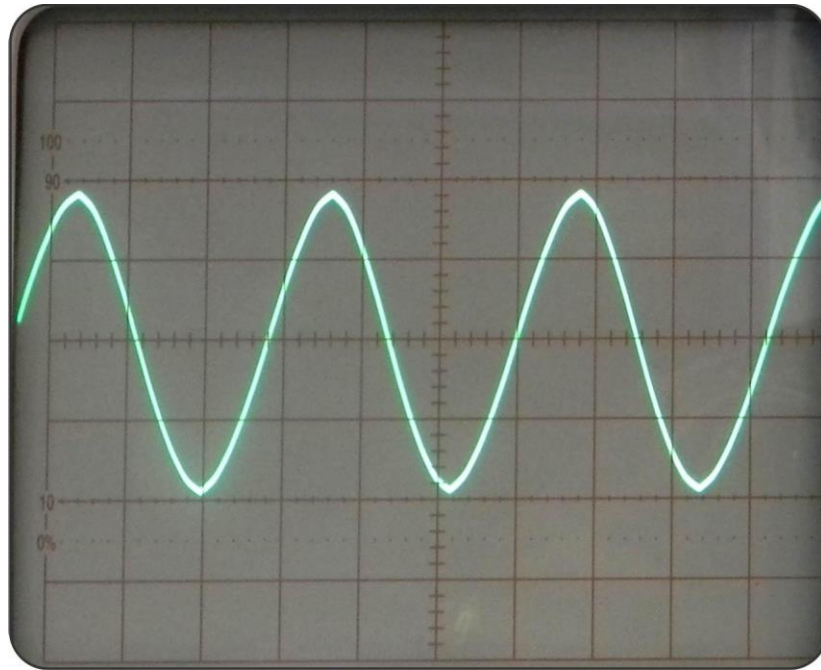

Figure 1.2
3. Observe the output of 'Audio Oscillator' block at 'Audio Signal Output' test point on Oscilloscope (Fig. 1.2). Amplitude and Frequency of this audio signal can be varied using the respective Amplitude and Frequency control pots. The amplitude varies from 0 to 2vpp approx and frequency varies from 300Hz to 3 KHz approx.